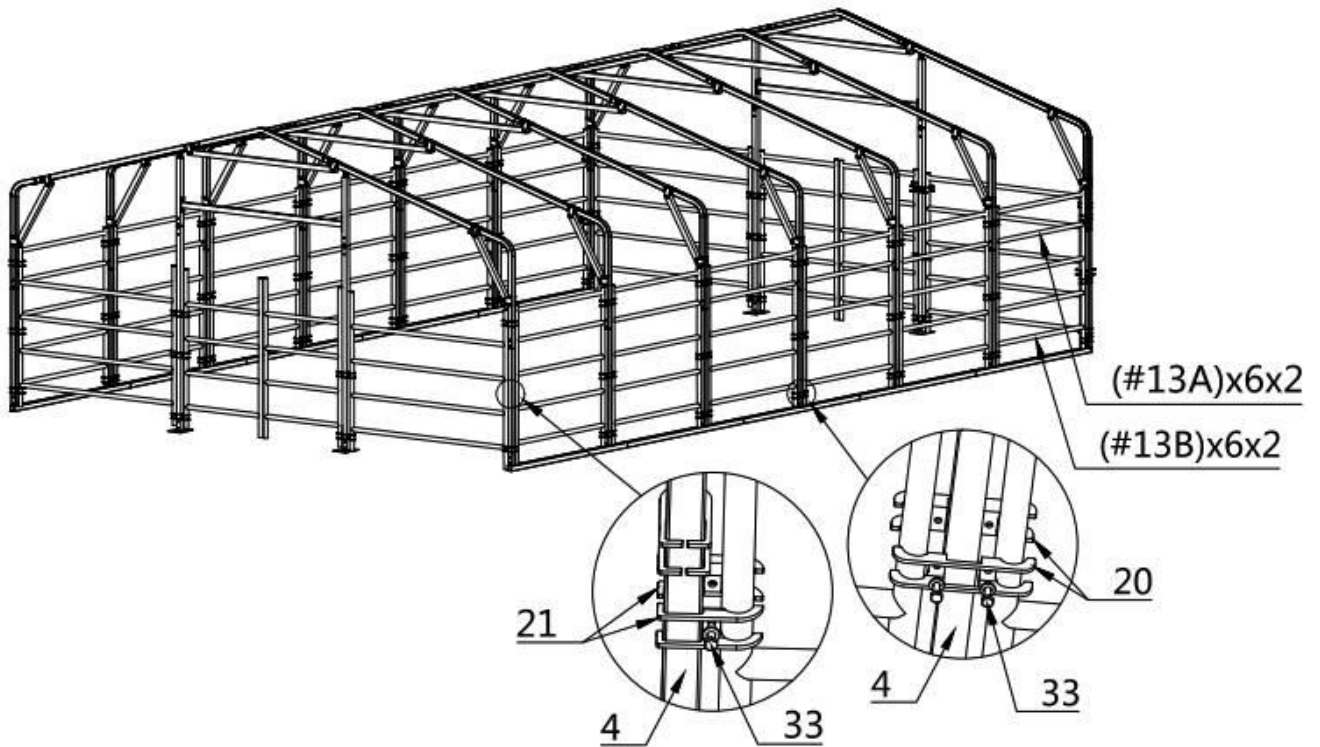

**Figure 11**
**Step 7 : Assemble all the side part fence as shown in (refer to figure 11).**
- (12) Side upper part fence (#13A)